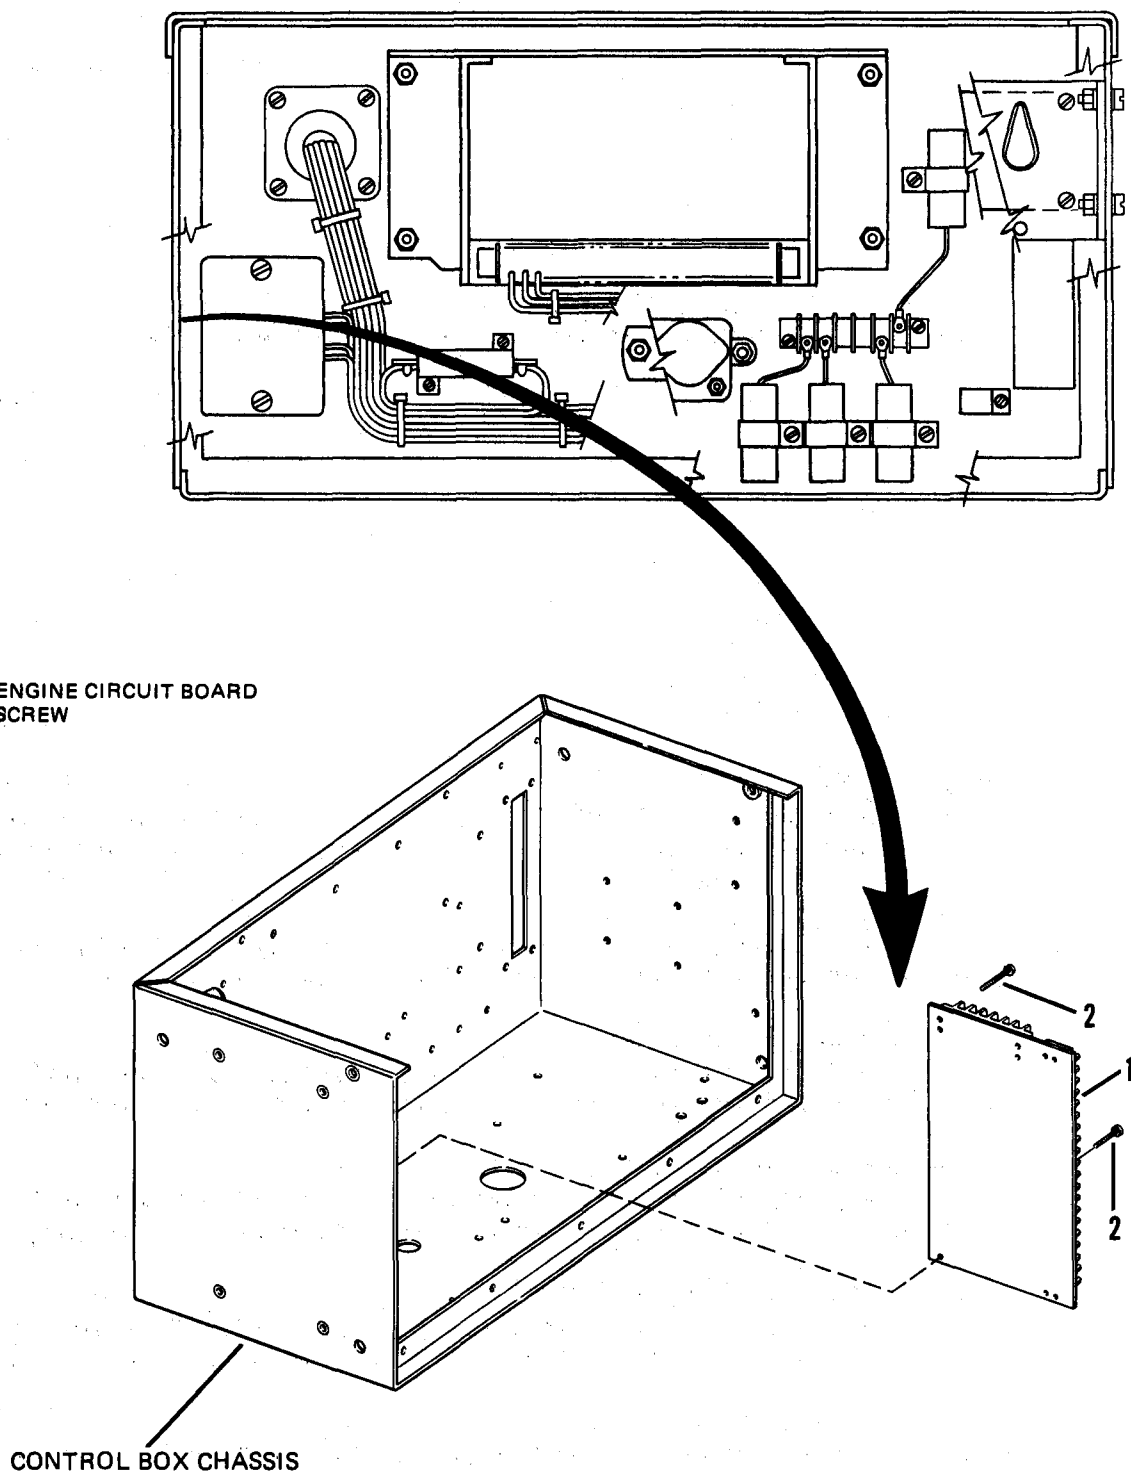
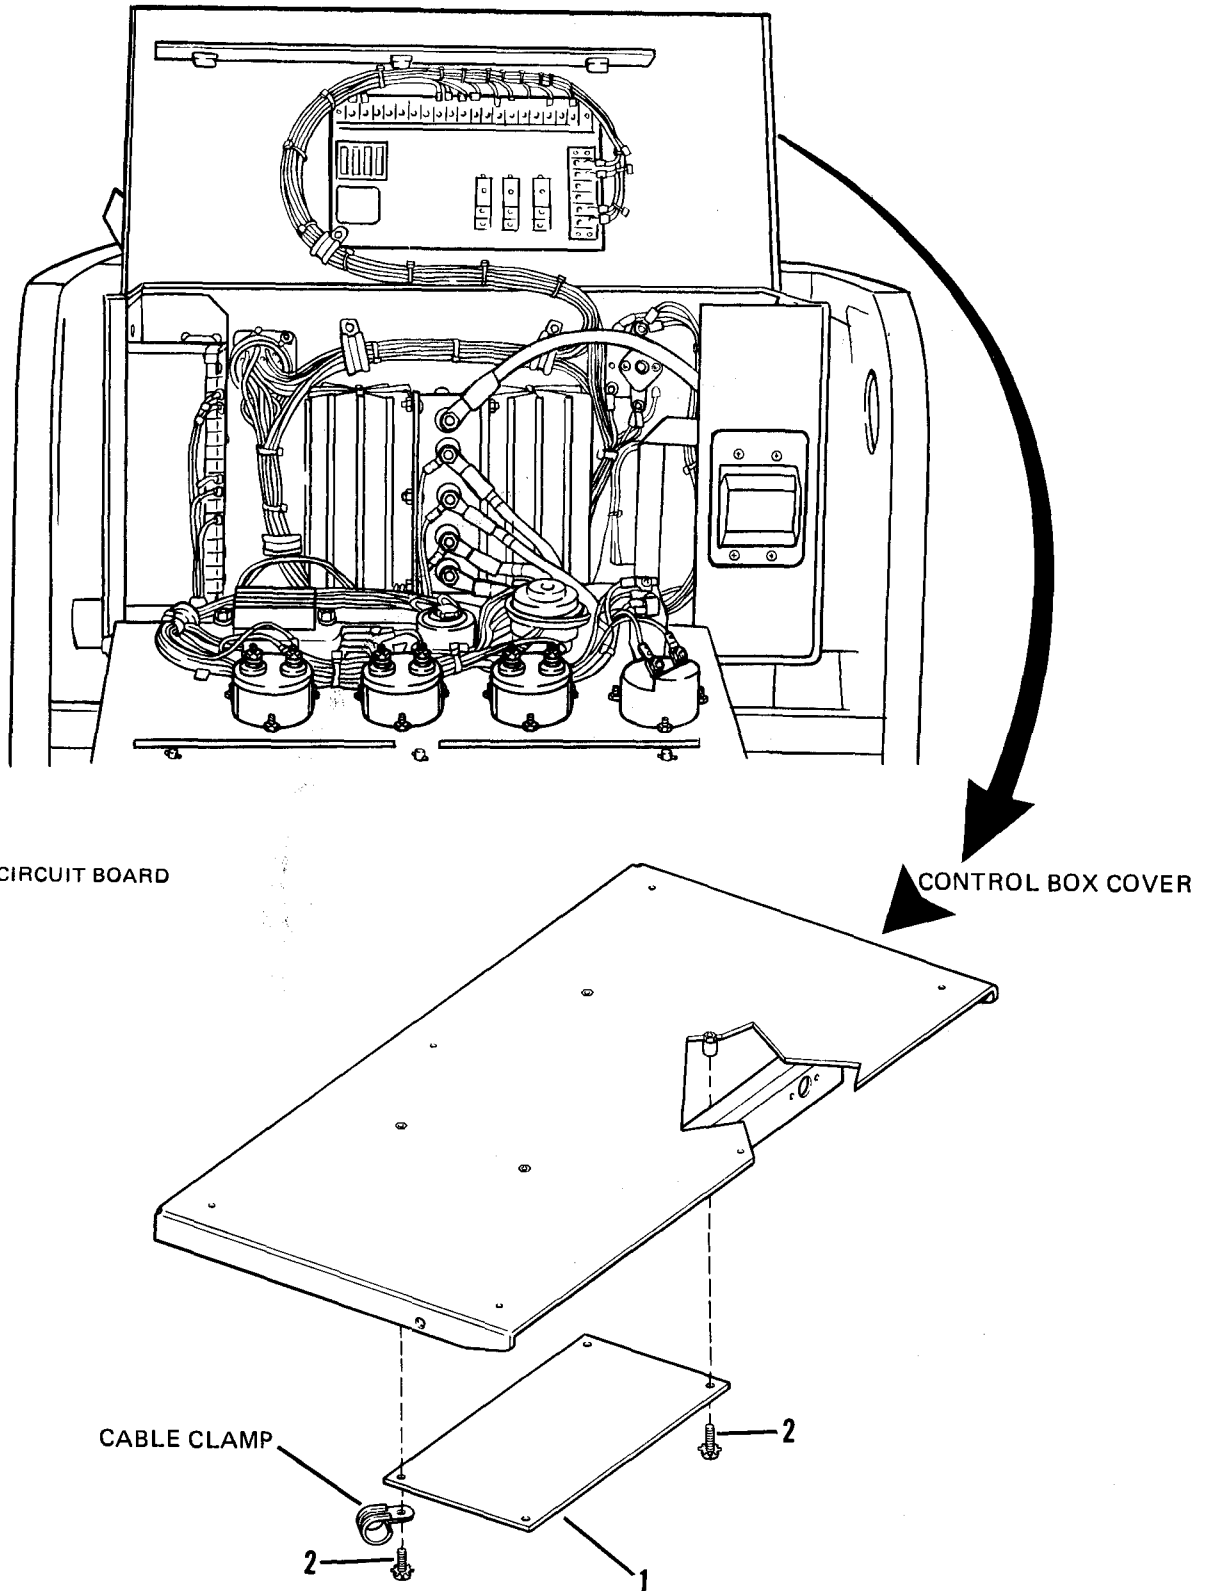

Figure 4-69. Engine Circuit Board (MEP-016B and MEP-021B).
Figure 4-70. Engine Circuit Board (Model MEP-026B).
- (1) Tag and disconnect wiring from engine circuit board (1, Figure 4-69) for MEP-016B and MEP-021B (60/400 Hz) sets or (1, Figure 4-70) for MEP-026B (28 VDC) set.
- (2) Remove screws (2) and remove engine circuit board.